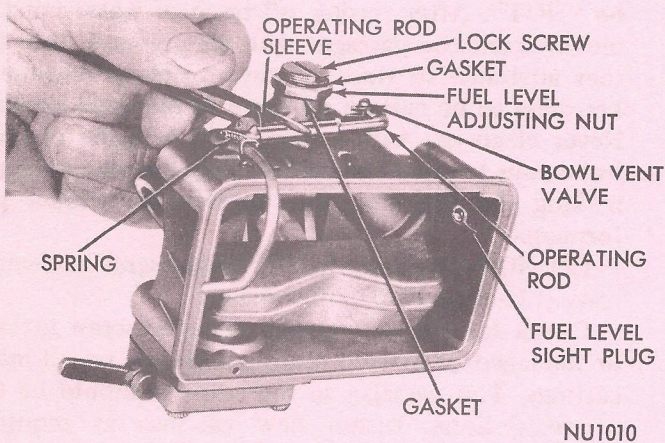

Fig. 11—Removing or Installing Bowl Vent Valve
(1) Remove screw that retains bowl vent valve, plate, spring and rod to fuel bowl (Fig. 11). Remove bowl vent valve assembly.